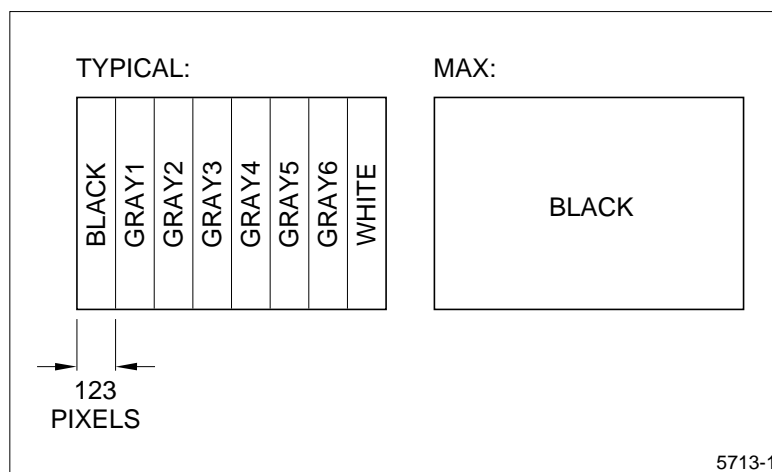

Figure 1. Current Dissipation
- Current dissipation is measured as shown in Figure 1.